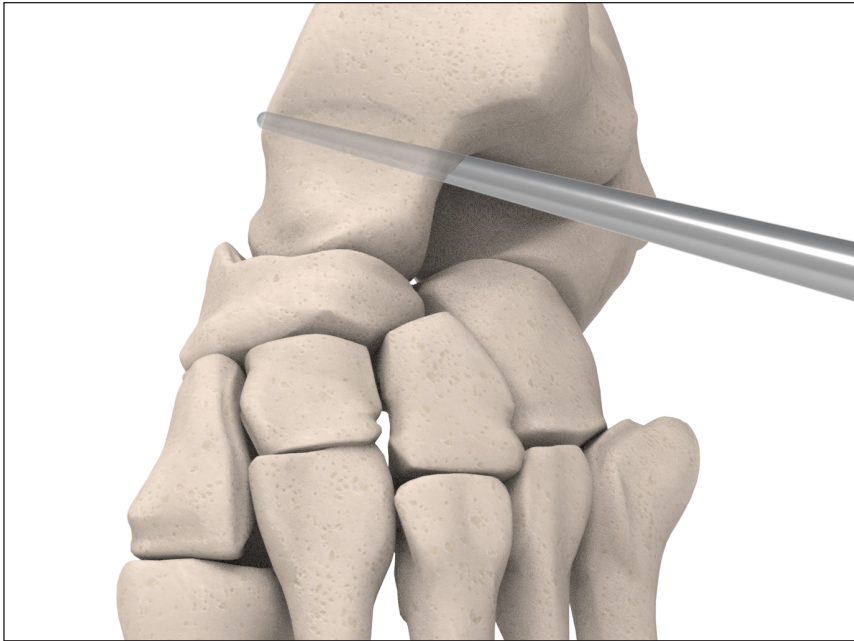

Fig 1
The starter probe (ref 17455) is used to slightly enlarge the sinus as well as the canalis tarsi and also to establish the subtalar joint axis. (Fig 1) The leading edge of the probe should be palpated at the medial aspect of the subtalar joint with slight tenting of the skin. This should be appreciated just inferior to the posterior tibial tendon and slightly inferior and anterior to the medial malleolus. Care is taken to preserve the interosseous talocalcaneal ligament.